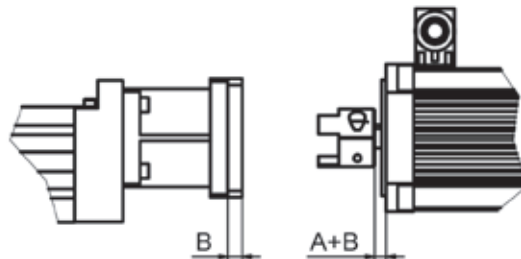

Figure 3.14 — Mounting dimension
1. Insert the coupling hub **2** on the drive or gearbox shaft. The dimension A (Figure 3.14) from Table 6.24 in catalog Chapter 6.2.4.2 and dimension B when using an optional intermediate flange **5**, should be considered.